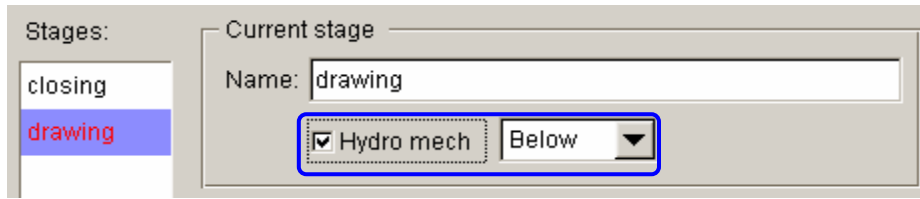

Figure 7.42 Hydro mech option
4. Next, toggle on checkbox of **Hydro mech** option, as shown in Figure 7.42. Click the drop-down button of **Hydro mech** option to select **Below** option,